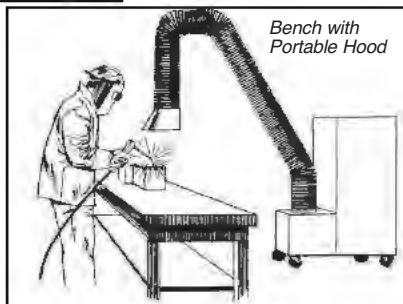

Figure 8
- 3) welding bench with portable or fixed hood (Figure 8).